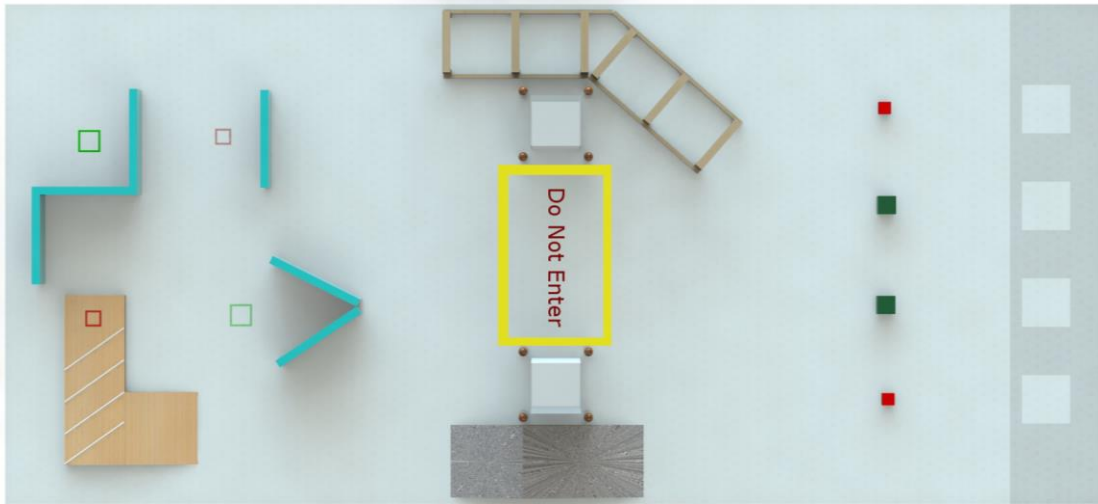

Figure 1: Overall Game Surface Layout (Subject to Minor Changes)
All events for the WKU Robotics Moving On competition will take place on a 20 ft by 45 ft carpeted area (Figure 1). For each competition round, robots will compete **sometimes alone, or two, three or four robots** at a time. The team driver will be allowed to move along one side of the playing surface, behind the starting positions, while another team spotter will be allowed to move outside of the playing surface at the far end from the starting positions.
- 2.3 Each robot will begin the game in its own 2' by 2' starting area (shown on the right side of Figure 1), and the driver must remain in the driver's box behind the starting area. The team robot must move around the playing surface. The driver's view **will be obstructed at times**, and it will be the job of the team spotter to assist in robot movement.
- 2.5 On the scoring side (the left side of Figure 1), there will be 4 target areas: two 8" square red targets and two 11" square green targets. For each round, the positions of four targets will be as shown in the figure, however the order (larger green vs. smaller red targets) will be changed just before each competition round begins. The red/green boxes must be moved to the same target color in order to score points. See section 5.0 for scoring points.
The WKU HS Robotics *Moving On Games* will take place on a 20 ft by 45 ft carpeted area (Figure 1). Teams will compete individually, in pairs, or threes in the early seeding rounds, and then four teams will compete in each of the finals rounds. The objective is to move the various boxes from the starting side of the playing surface to target zones located on the scoring side during the time allowed.